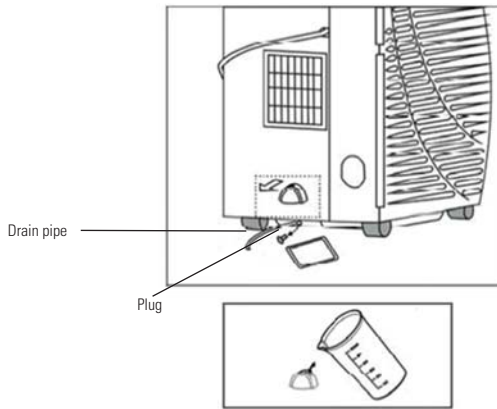

FIGURE 13.1
- Please unplug the machine before moving it to a location where you can drain the water and then open the water drain hole. (Figure 13.1)
- You can drain the water out with a drain pipe. It is included in the accessory. (Figure 13.1)
- When the water in the cave is not enough for pumping, the pump will stop working. At the same time, the Water Injection indicator on the control panel will illuminate (I), you had better inject some water into the water draw carefully. In order to avoid the water flooding from the under pan, you should inject water no more than 1800ml (three cups). This operation helps save 20% to 30% energy for you.